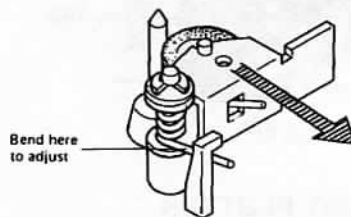

Fig. 5-6
- 2) With the deck in the reproduce mode, attach the scale near the shaft of the pinch roller, being careful not to touch the pinch roller. See Fig. 5-6.
- 5) If the reading is outside this range, replace the pinch roller pressure spring or adjust the pressure by bending the spring as shown in Fig. 5-6.